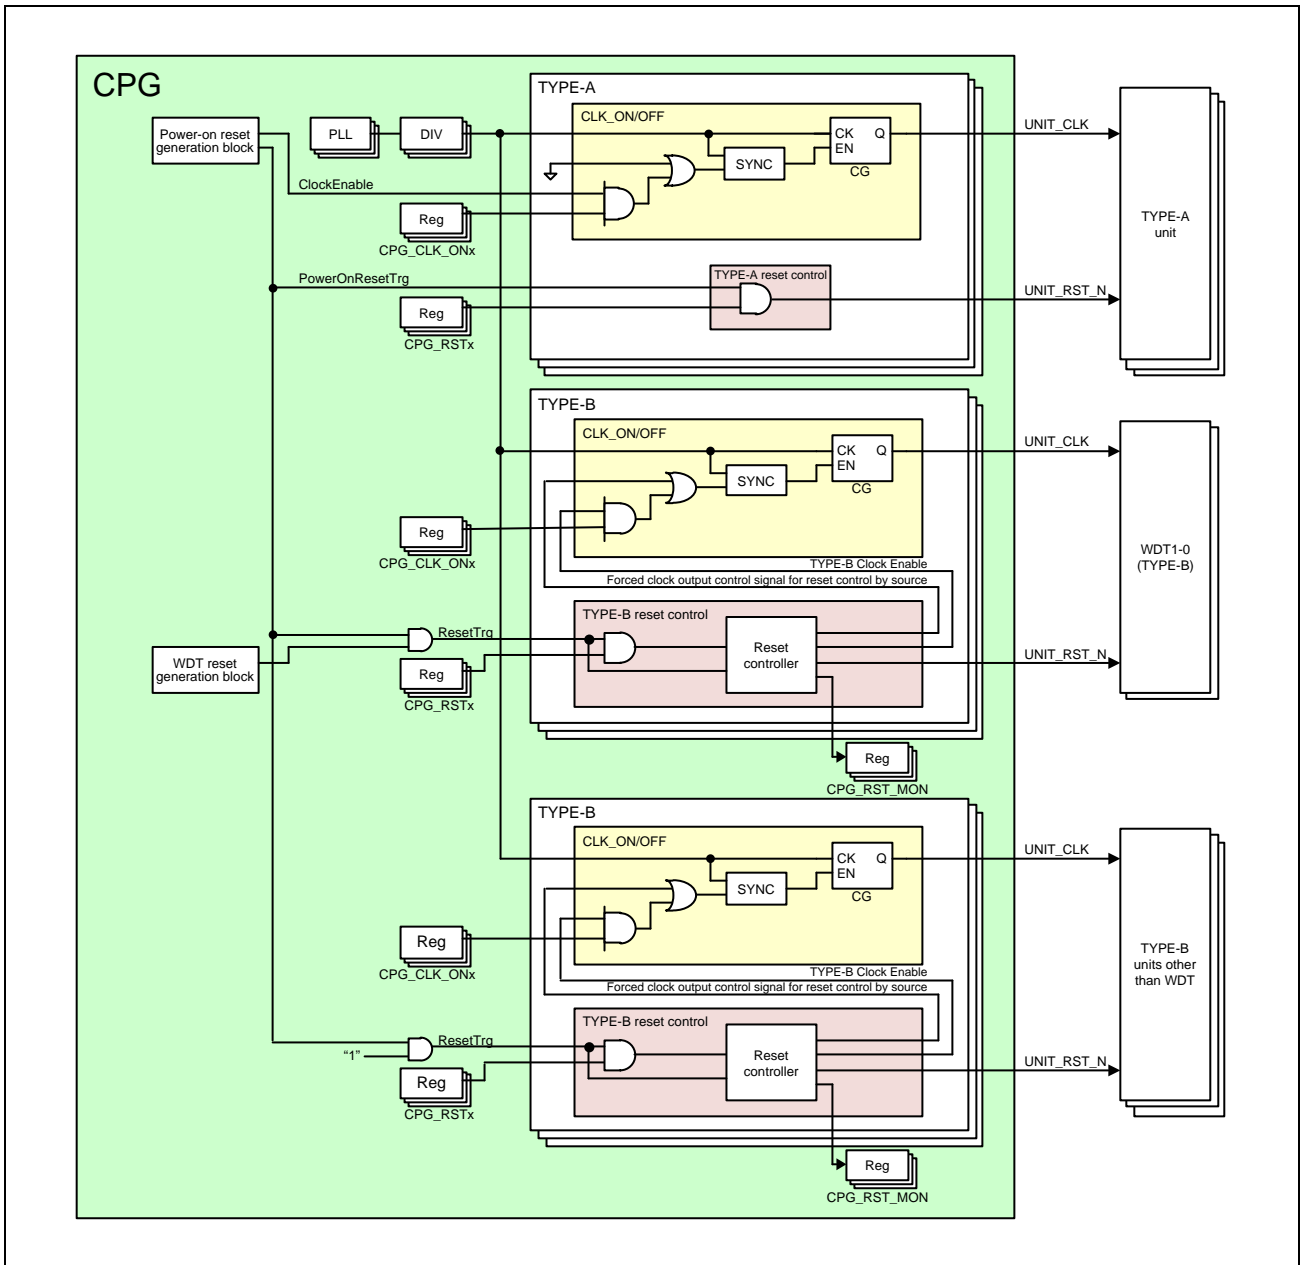

Figure 34.6-27 Schematic View of Connections of Reset Control TYPE-A and TYPE-B
**Figure 34.6-27** is a schematic view of connections of the respective units and reset control TYPE-A and TYPE-B.